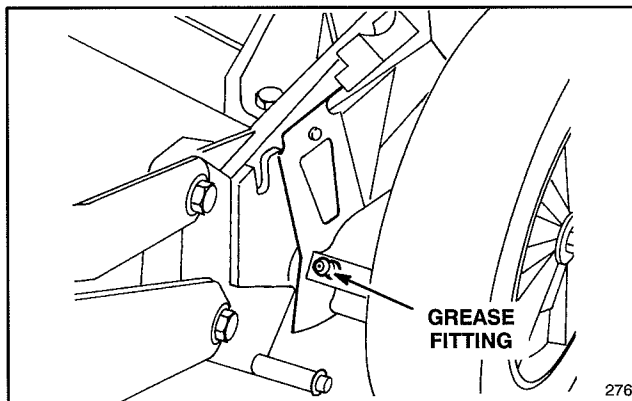

Figure 22
2. **SELF-PROPELLED MODELS ONLY**—Move rear wheel height-of-cut levers to “C” setting. Wipe grease fittings with clean rag (Fig. 22). Install grease gun onto fitting and gently apply 1. or 2 pumps of #2 Multi-purpose Lithium Base Grease. Excess pressure may damage seals and prevent the free wheel clutch from operating properly.